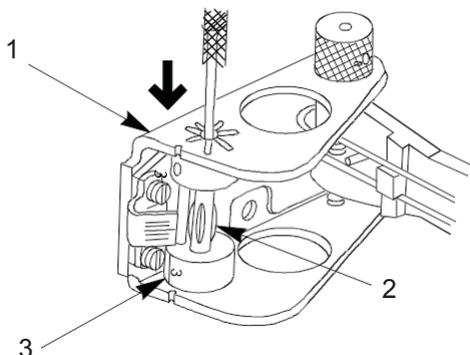

Figure 40. Rear Sight Base, Elevator Assembly, Shaft on Flat Surface.
11. Position rear sight base (Figure 40, Item 1) on flat surface. Position elevator assembly (Figure 40, Item 3) into rear sight base (Figure 40, Item 1) (the side marked with the numeral 3 toward the right rear hole). Drive shaft (Figure 40, Item 2) in flush with outside surfact of rear sight base (Figure 40, Item 1).